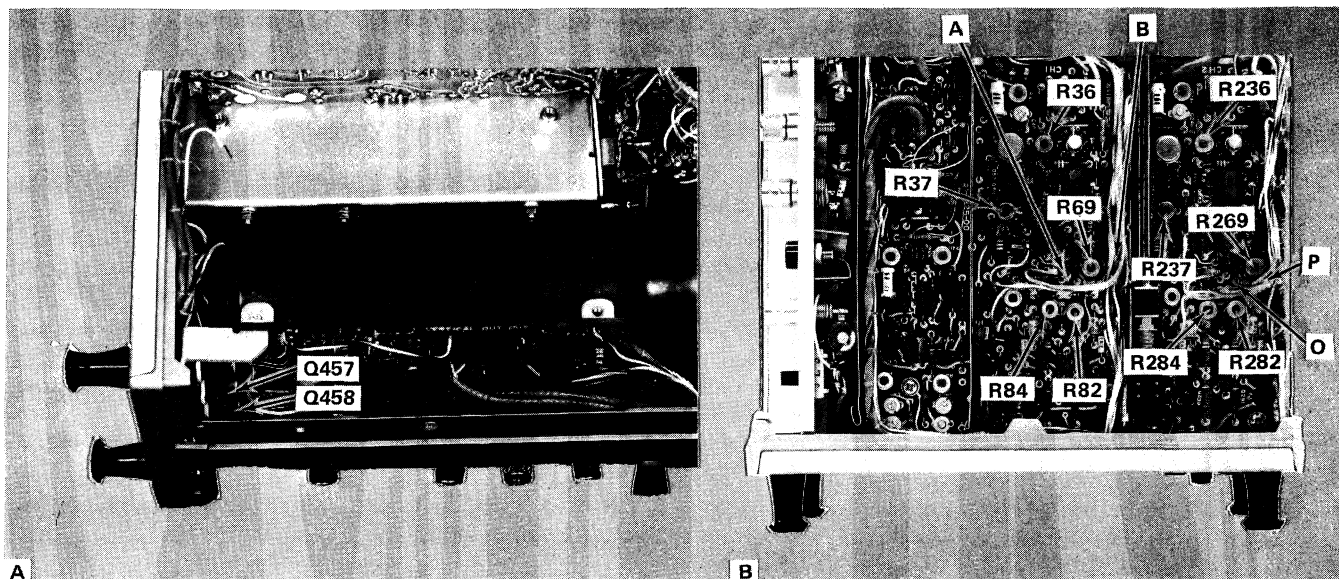

Fig. 5-11. Deflection Plate DC Level adjustment. Location of controls.
b. ADJUST—Deflection Plate DC Level: Connect a DC Voltmeter (set for 10 V range) between terminal point B, the R74-R75 junction and terminal point A, the R76-R75 junction on the Vertical Preamp board (for CH 2 these are terminal point P, the R274-R275 junction and terminal point O, the R276-R275 junction). See Fig. 5-11 or Fig. 7-4 (A3 board photo on reverse side of diagram 1) for component and test point locations.